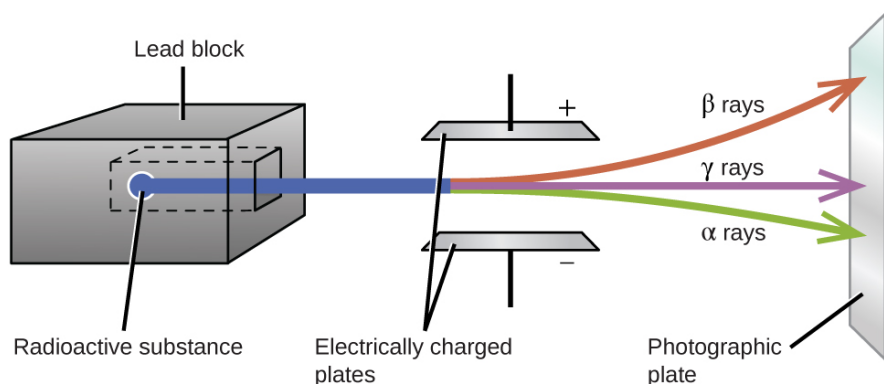

Figure 15.4: Effect of magnetic field on radioactive emissions
- It is deflected toward the negative pole of electric and magnetic fields. Look at Figure 15.4 below.
- It is deflected toward positive plate of an electric and magnetic fields. The deflection is large since a beta particle is lighter than an α -particle. Refer to figure 15.4 for further understanding.
- It is not deflected by electric and magnetic fields. Refer to figure 15.4 for more understanding.
In 1899, the study of radioactivity was taken up by **Ernest Rutherford**. He placed a little radium at the bottom of a small lead box and subjected the rays that emerged from it to the action of a very strong magnetic field at right angles to their direction. He found that the rays separated into three distinct constituents as shown in the figure 15.4 below.